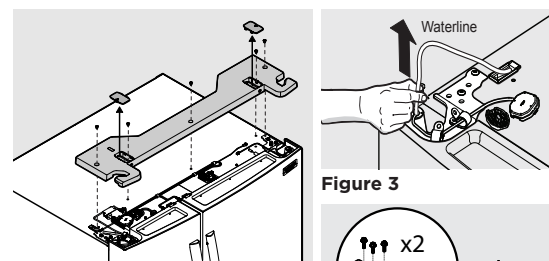

Figure 1
1. Remove all screws from the top hinge cover, including those under dampener covers, and lift up. See Figure 1.